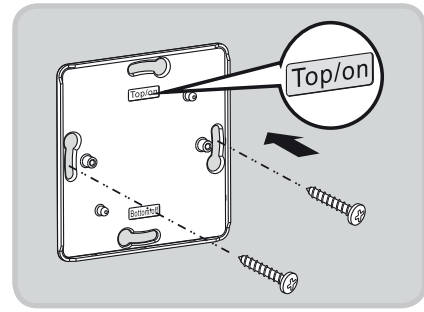

Fig. 5
- on a wall with screws (see Fig. 5 and point 2.2.2)